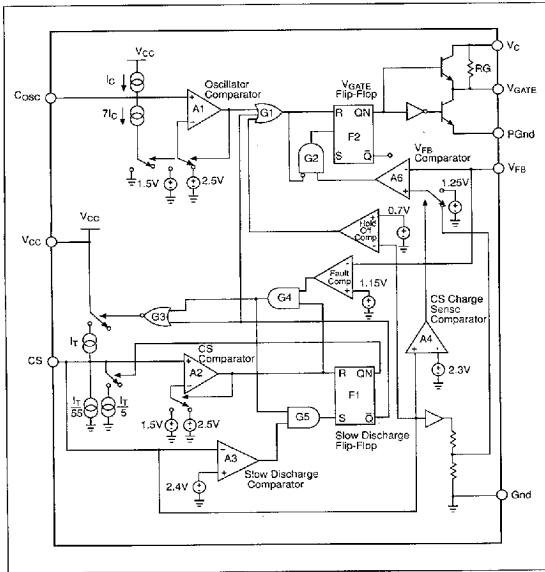
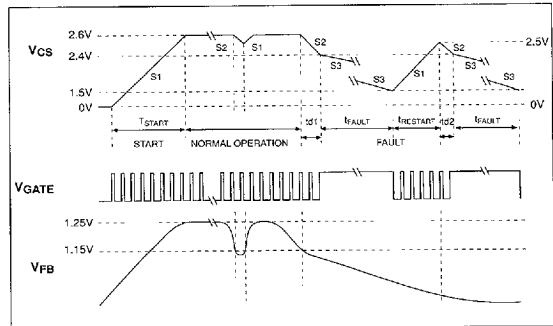

Figure 2. Simplified Functional Diagram
Figure 3. Voltage on start capacitor (V_{CS}), the gate (V_{GATE}), and in the feedback loop (V_{FB}), during startup, normal and fault conditions.
Softstart is obtained by clamping the V_{FB} comparator's (A6) reference input to approximately $1/2 V_{CS}$ during startup, permitting the control loop and the output regulation voltage to slowly start up and reduce overshoots. Referring to Figure 2, once the CS pin charges above the holdoff trip point of 0.7V, the low feedback to the V_{FB} Comparator is allowed to set the GATE flip-flop only during C_{OSC} 's charge cycle. Once the GATE flip-flop is set, V_{GATE} goes low and turns on the PFET device which activates the external V_C charge pump circuit and allows V_{FB} to rise. When V_{CS} exceeds 2.4V, the CS charge sense comparator (A4) sets the V_{FB} comparator reference to 1.25V completing the startup cycle.
The CS-51033's short circuit protection scheme is considered "lossless" since no sense resistor is needed. The controller compares the output DC voltage against the CS pin voltage to determine if a true fault is occurring. Please refer to Figures 2 and 3 for the following discussion. The CS cycle under a constant fault condition (sometimes referred to as hiccup mode) can be broken up into 3 sections; $t_{RESTART}$, $t_{FAST DISCHARGE}$, and t_{FAULT} .
- The $t_{RESTART}$ section of Figure 3 represents only 1.96% of the entire CS duty cycle. Note that the PFET operates under a short circuit condition because the internal fault circuitry is not enabled until the fault capacitor is charged to 2.5V. Referring to Figure 2, A2's low output keeps G4 disabled, blocking A5's high output.
- $t_{FAST DISCHARGE}$ makes up 0.9% of the entire CS duty cycle (labeled $td2$ in Figure 3) and it occurs once V_{CS} reaches 2.5V. The CS pin will be discharged from 2.5V to 2.4V during fast discharge mode. The purpose of this section is to reduce false faults due to transient on the V_{FB} pin (see S1 and S2 in Figure 3). If V_{FB} returns above 1.15V before CS has been discharged to 2.4V, a false fault has been detected and the CS pin will be allowed to charge back up to 2.6V where it will wait for the next
instance where V_{FB} will go below 1.5V. Referring to Figure 2, once CS reaches 2.5V, A2's output will go high enabling G4. Now A5 can discharge the CS capacitor by turning off the charge current.